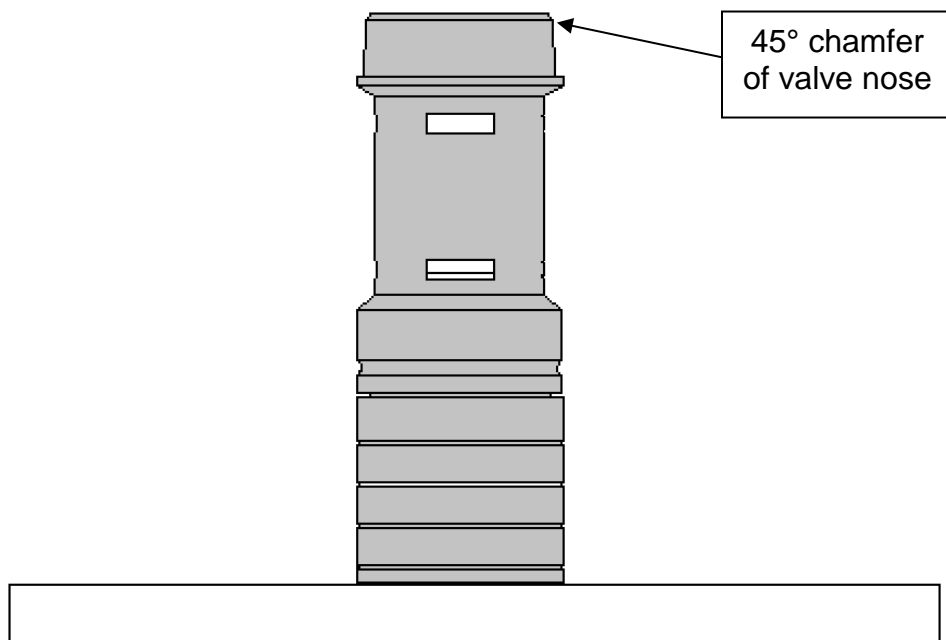

Figure 4: Insert orientation
- 3.5.2 To apply a new compression seal, take the insert and place the face of the locking end on a level work surface so that the 45° chamfer of the insert faces upward (Figure 4).